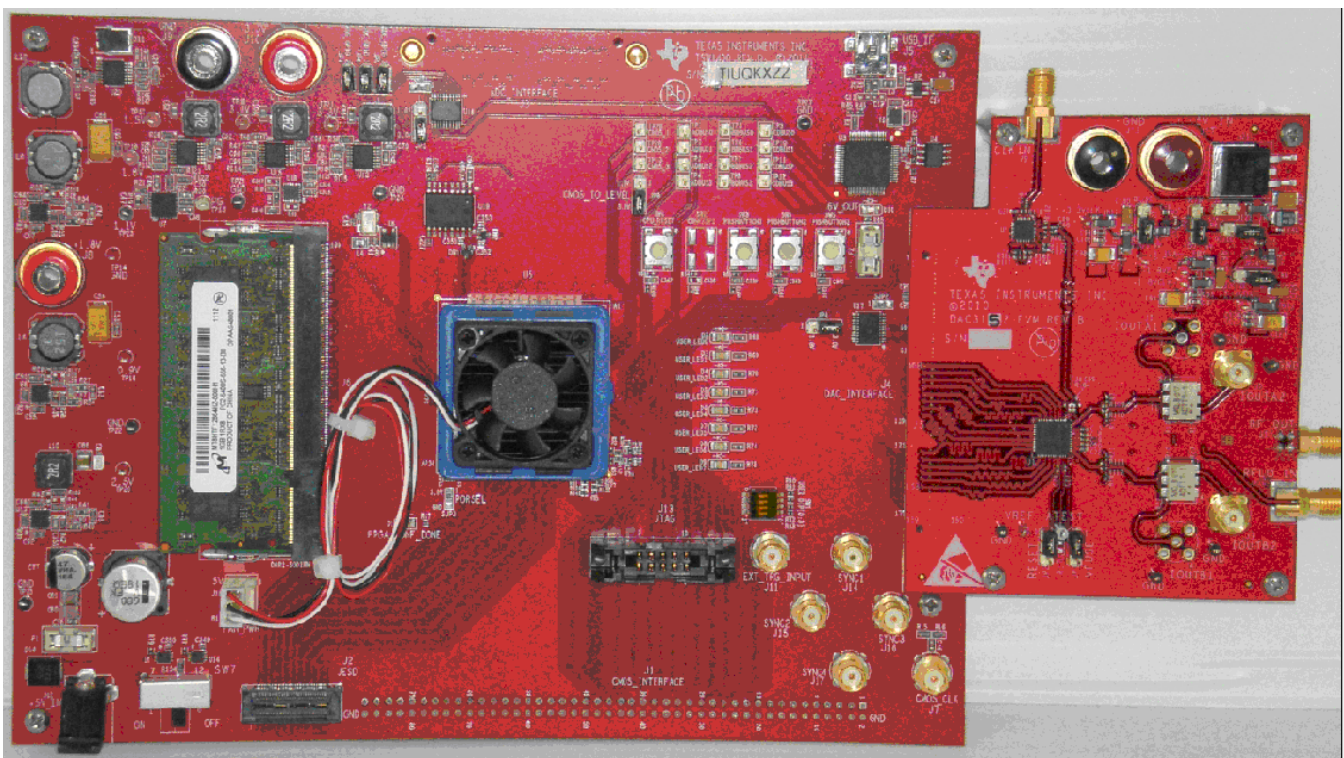

Figure 37. TSW1400 EVM Interfacing to a DAC EVM
- A TSW1400 EVM connected to a DAC3152 EVM is shown in Figure 37.